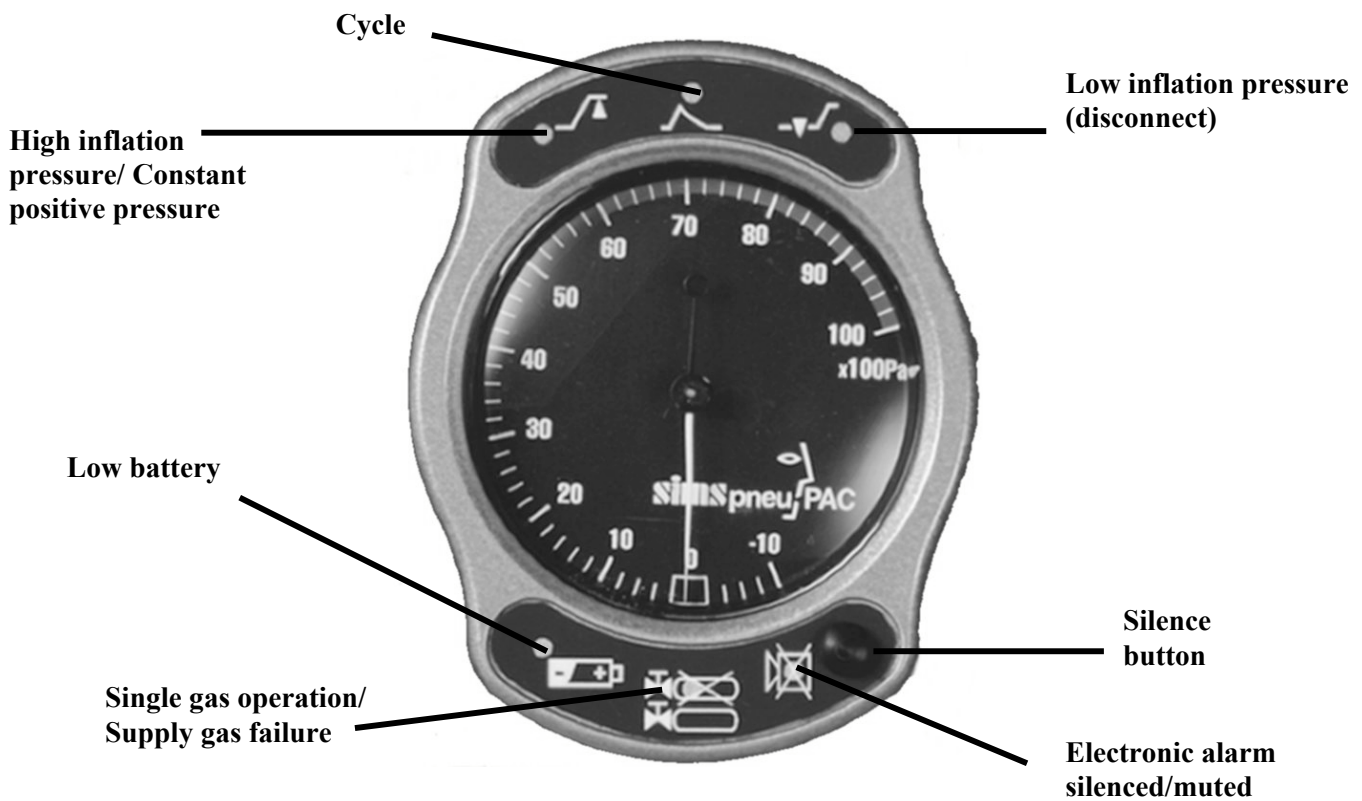

Figure 2 : Alarm Indicators
(refer to Figure 2)
- vi) Check & record minimum, detent & maximum PEEP on both the calibrated gauge and the Patient Pressure Manometer. When the PEEP level is greater than 10 x100kPa (10 cmH₂O) for longer than 8 seconds, the 'cycle' LED will not indicate but after 8 seconds the Constant Positive Inflation Pressure alarm should activate (see Figure 2). The 'high inflation pressure' LED should flash 2 times per second and a high priority audible alarm should sound, consisting of two bursts of five pulses at a rate of 6 times per minute.